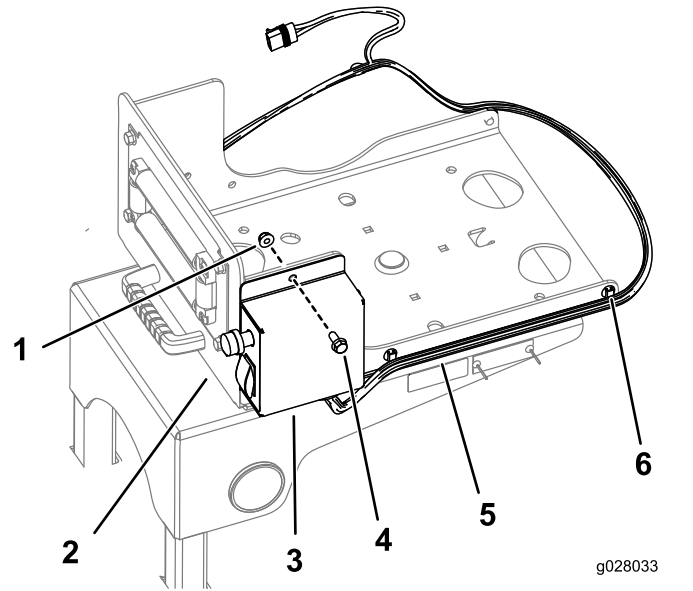

Figure 21
3. Mount the switch box to the swivel plate using 2 bolts (5/16-18 x 1/4 inch) and 2 flange nuts (5/16-18 inch) as shown in Figure 21.
4. Secure the wiring harness to the sides of the swivel plate using the existing clips (Figure 21).